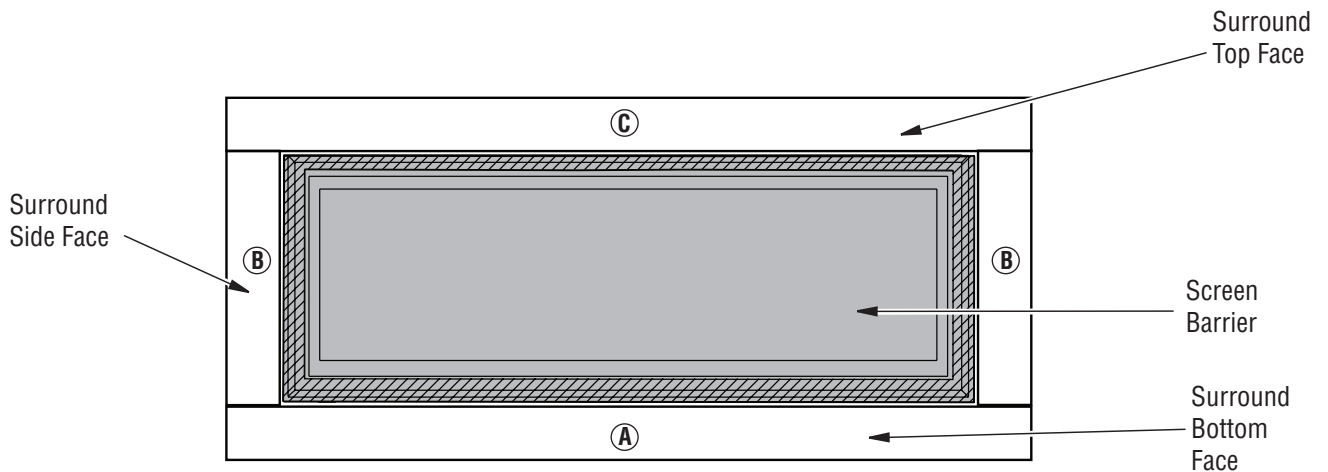

Figure 3 - Surround Face Installation
6. Install top surround face (C) (after steps 3 thru 5 are complete) flush with surround sides and edge of screen barrier (see Figure 3).
9. Installation is now complete. **Note:** See Figure 3 for an illustration of the completed installation.